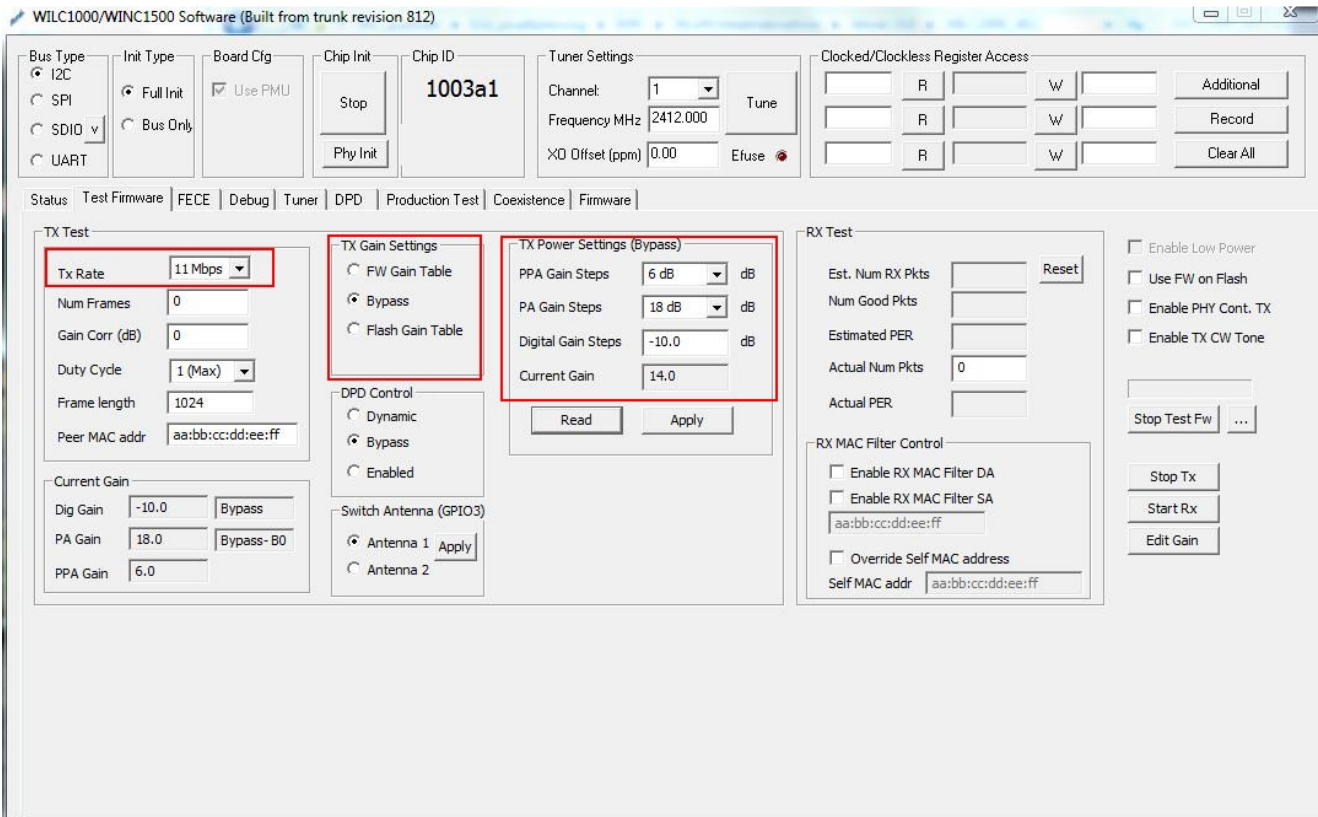
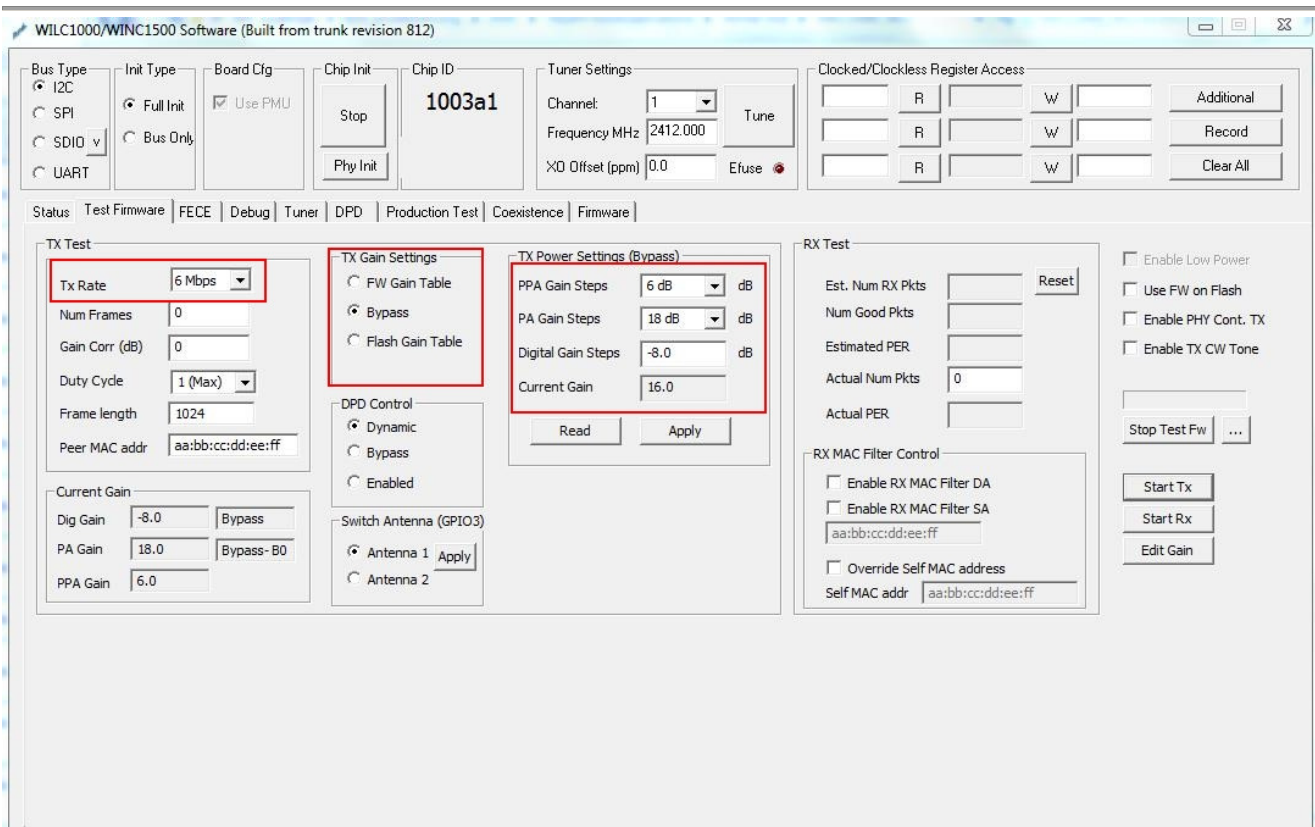

Figure 14: 802.11b (Tx Rate 11Mbps worst case)
Figure 15: 802.11g (Tx Rate 6Mbps worst case)
- Select the channel in the **Tuner Settings** (Ch.1 – Ch. 14). (see Figure 14)
- Select Tx rate in **TX Test** (see Figure 14, Figure 15, Figure 16). Tx rate can be configured between 1 Mbps – 54 Mbps (IEEE 802.11b/g) and between MCS0 – MCS 7 (IEEE 802.11n). Transmitter performance is described in Figure 13.
- Select Output Power in **Tx Power Settings** (see Figure 14). **Bypass** mode shall be selected in **TX Gain Settings**. Only the **Digital Gain Steps** are allowed to be changed. According to 802.11 b, g, n different values must be chosen (see Figure 14, Figure 15, Figure 16). **PPA Gain Steps** (6dB) and **PA Gain Steps** (18dB) must not be changed because these are fixed values from Atmel Firmware. By pressing **apply** and **read** current power settings are confirmed.
- By pressing **Start Tx** (see Figure 14) the module is transmitting data according to the settings made before.
If the TX test runs, the test has to be stopped by **Stop Tx Button** (Figure 14) before it is allowed to change any TX-Settings.